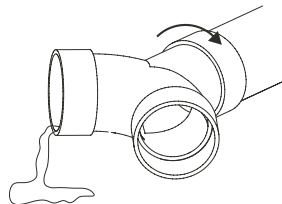

Figure 10
- The Y junction should initially be set into place using a spirit level across the two outlet points so these are level, but for precise calibration release a small volume of grey water through the system and collection of the two stream in separate containers to check the split, followed by minor rotation to the fitting until an even split is achieved (see Figure 10).